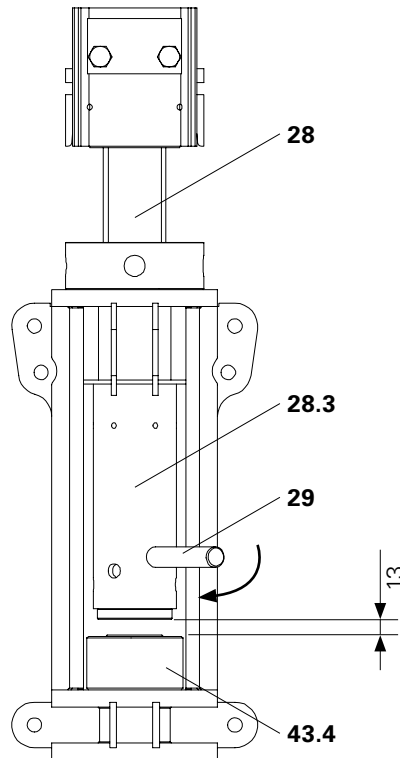

Fig. D2.01
1. Insert the Mounting Shaft VST (29) into the spindle sleeve (28.3).
2. Lower the spindle sleeve (28.3) with Mounting Shaft VST (29) until a 13 mm spacing is between the spindle sleeve (28.3) and hydraulic cylinder (43.4). (Fig. D2.01)